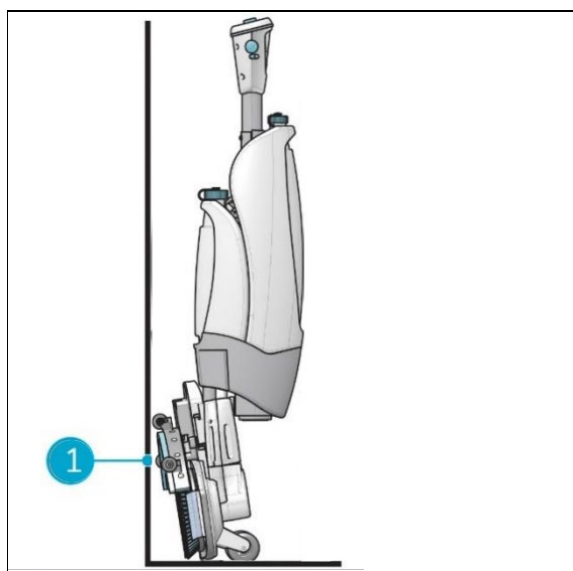

Figure 22
3. Store the i-mop XL basic close to a wall (Figure 22, pos 1) with the handle pointing facing away from the wall and the brushes towards the wall.